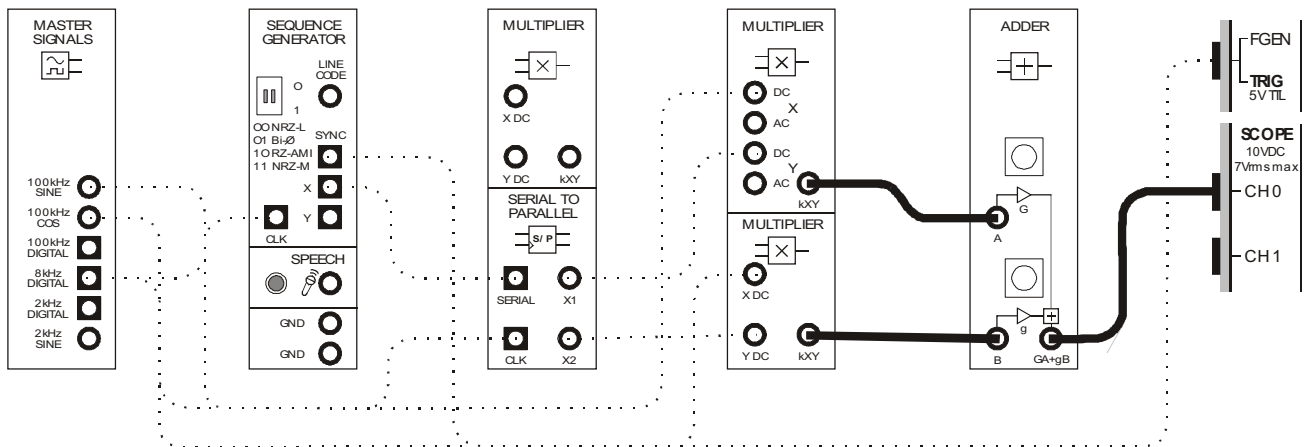

Figure 9
27. Modify the set-up as shown in Figure 9 below.